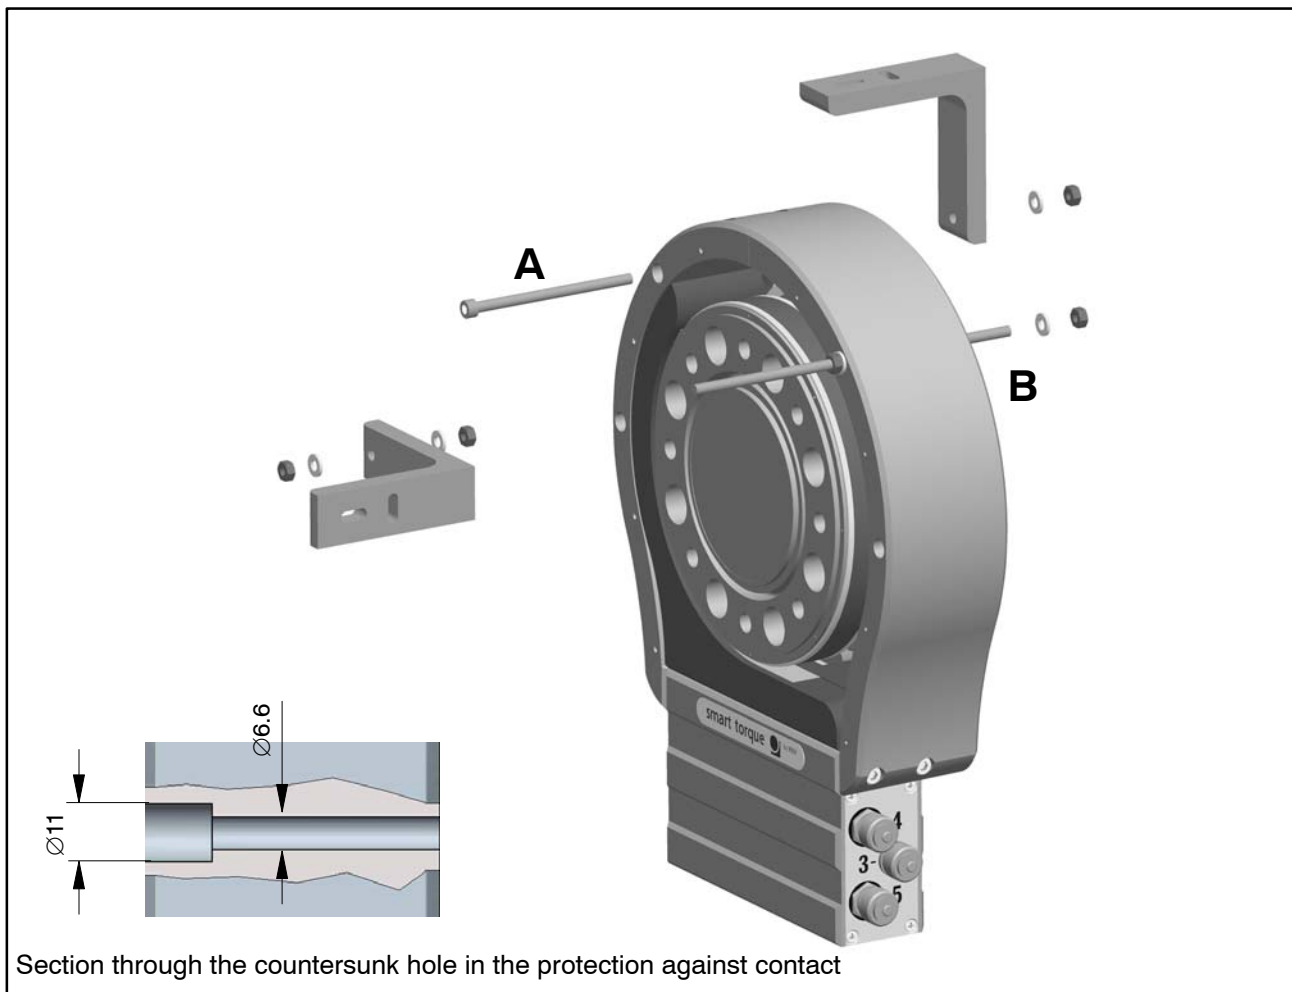

Fig. 6.12: Supporting the stator with an angle bracket (5 kN · m and 10 kN · m)
With the T12/5 $\text{kN} \cdot \text{m}$ and T12/10 $\text{kN} \cdot \text{m}$ torque transducers, we recommend additionally supporting the stator at the protection against contact. Fig. 6.12 shows an example of how to attach an angle bracket with a bolt (A) or with a threaded rod (B). Note that in this case, the cover plates cannot be fitted.